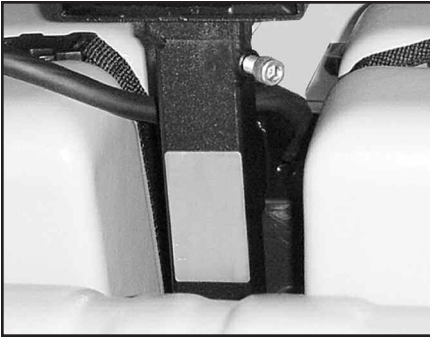

Figure 7F
3. Using the 1/4 inch hex wrench supplied with the vehicle, loosen the cap screw located at the top-front corner of the seat post. (See Fig. 7F, Pg. 33).